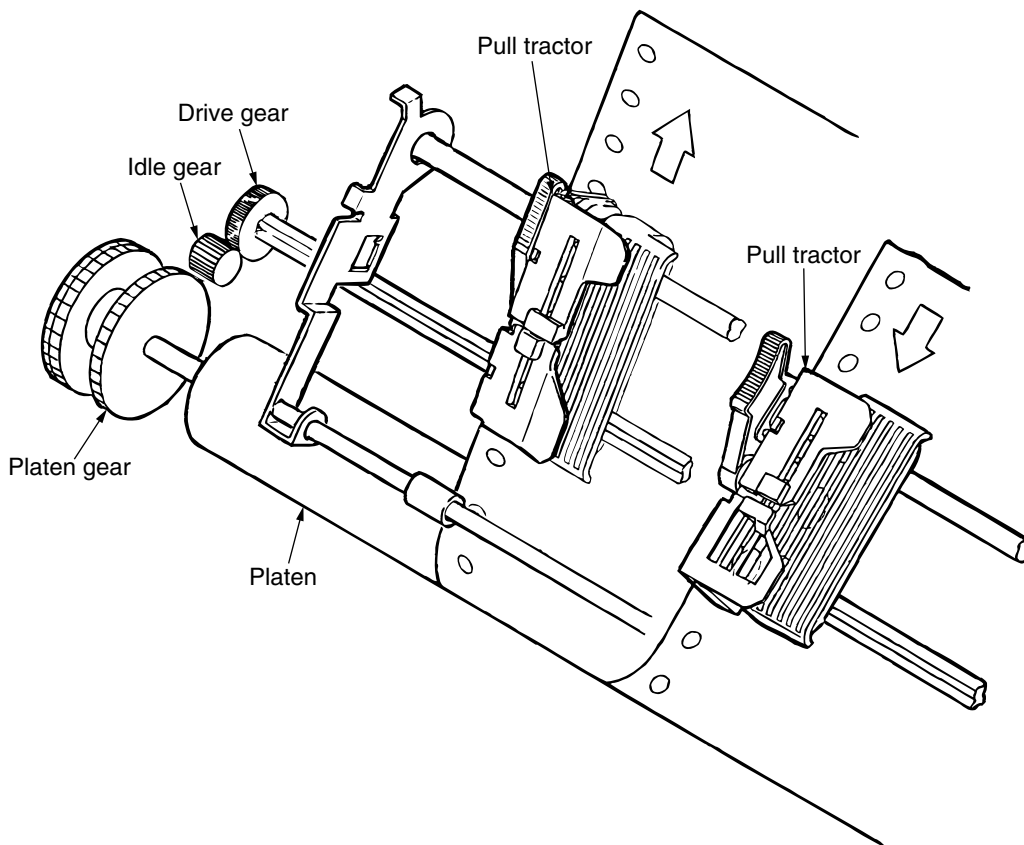

Figure 2-10
## (4) Push and pull tractor mechanism (Option) (See Figure 2-10).